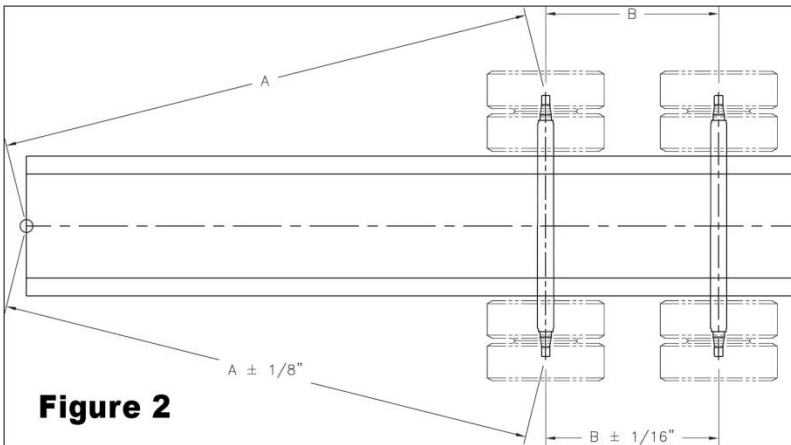

Figure 2
4. Align the aft axle(s) to the forward axle to within $\pm 1/16"$ using the same procedure. See **Figure 2**.